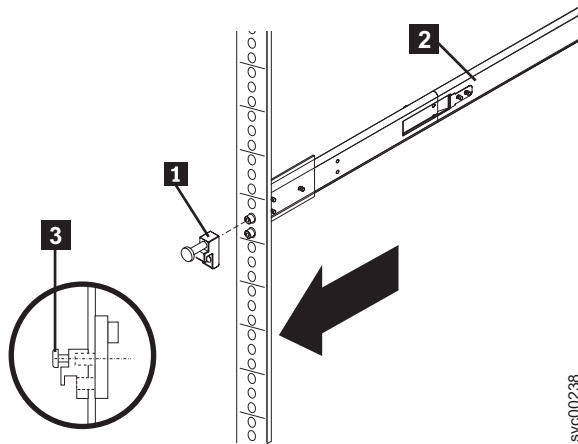

Figure 119. Attaching the latch strike to the front of the rail
5. Attach one latch strike **1** to the front of the right rail **2**, as shown in Figure 119 on page 452, using the captive screw **3**. Turn the screw only finger tight. Attach the other latch strike to the front of the left rail in the same way.